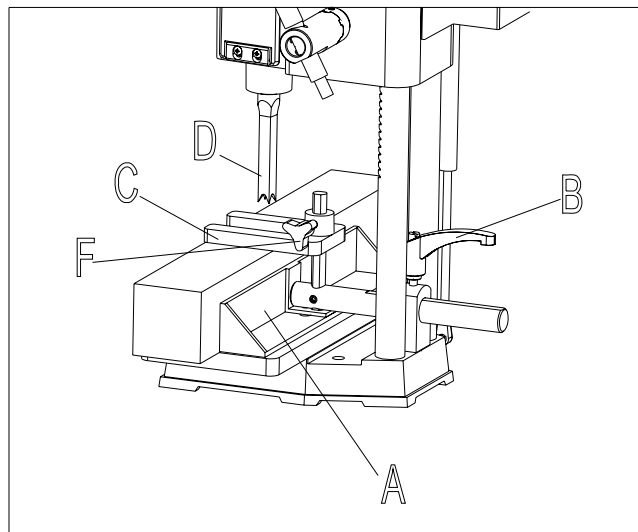

Fig 10
The fence (A) Fig. 10, can be moved in or out by loosening lever (B), sliding fence to the desired position and tightening lever (B). **NOTE:** Lever (B) is spring-loaded and can be repositioned by pulling out on the lever and repositioning it on the serrated nut located underneath the lever.